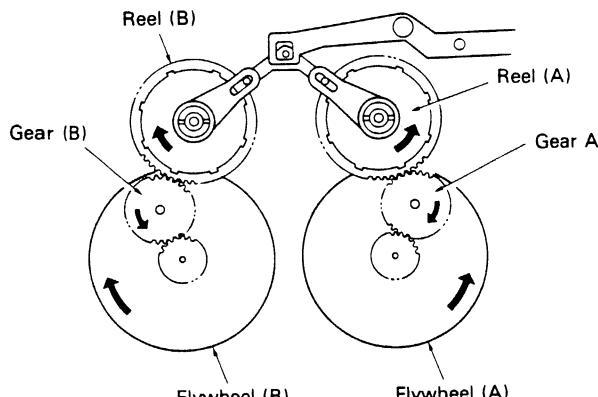

Fig. 21
- As shown in Figure 21, the gears on flywheels (A) and (B) mesh with gears (A) and (B), which in turn mesh with the gears on reels (A) and (B).
- Both reel (A) and reel (B) are now rotating, but at this point, the tape is not moving in either direction.